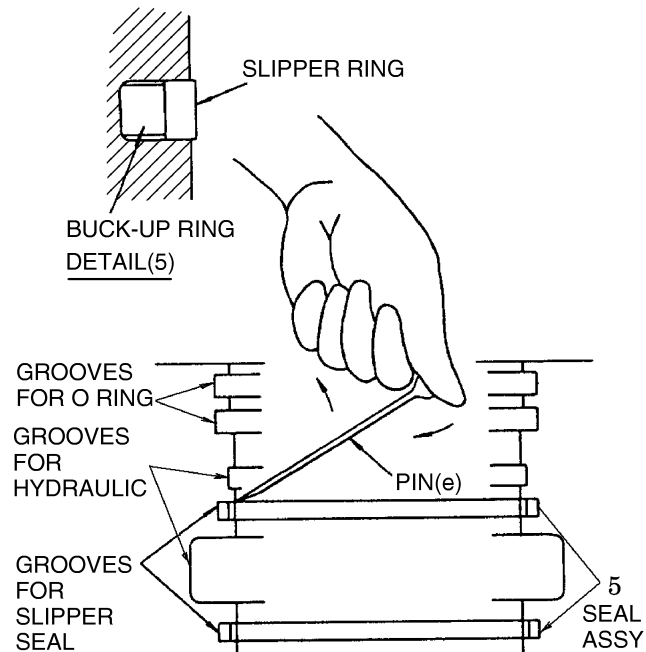

Fig. 6-7 Removing out seal assy (5)
- 2) Stick pin (e) to seal (5) and extract slipper ring (5). Fig.6-7 shows the use of one pin, but by using two pins, this can be extracted with more sureness.